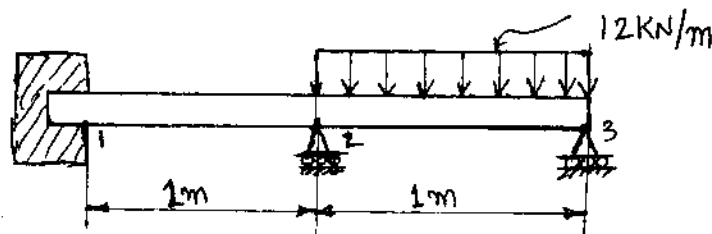

Fig.Q7(b)
b. For the beam and loading shown in Fig. Q7(b), determine the slopes at 2 and 3, vertical deflection at the mid points of the distributed load. Take  $E = 200 \text{ GPa}$ ,  $I = 4 \times 10^6 \text{ mm}^4$ . (12 Marks)